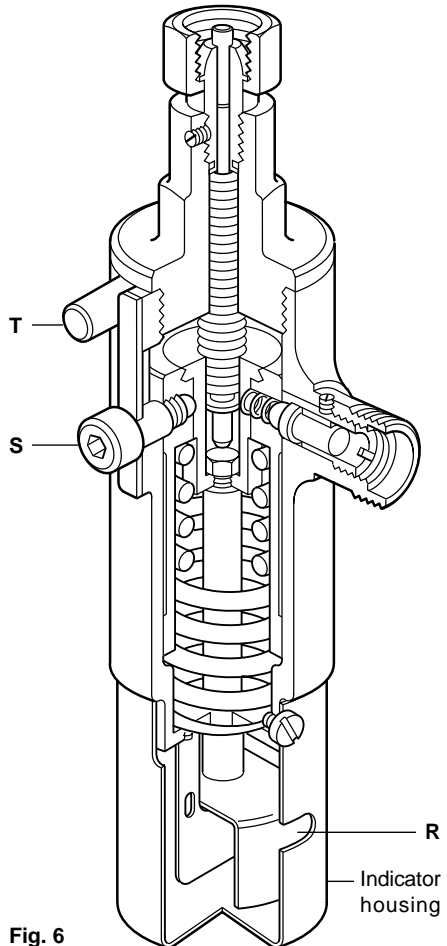

Fig. 6
When the cut-out has fired to operate the valve, a red disc (R, Figure 6) will appear in the indicator housing and the HL10 will need resetting (see Section 6.3).
Before resetting investigate the cause of the override, and take remedial action if necessary. To reset allow the plant to cool down to normal operating temperature then using a tommy bar as a lever between the two lugs (S) and (T), see Figure 6, recompress the spring.